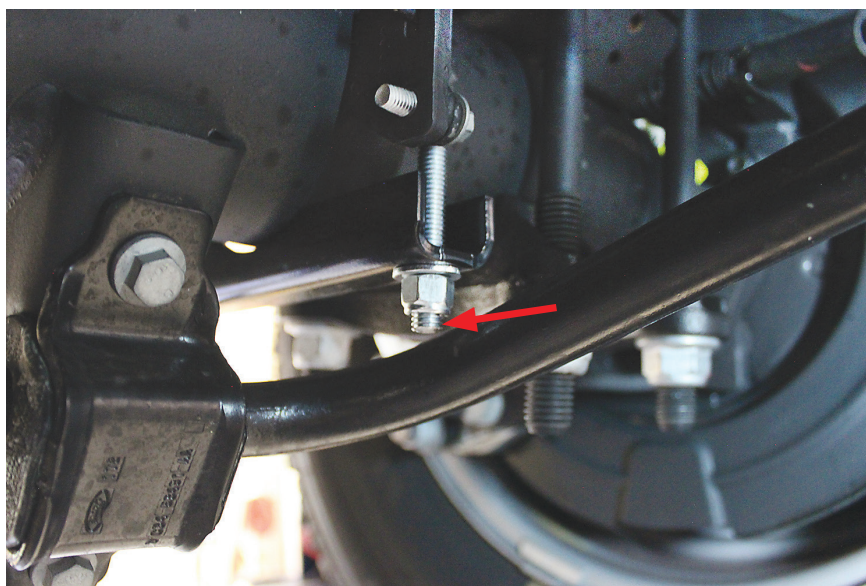

Fig. 20
6. On vehicles that have a sway bar, cut the front carriage bolt just below the nut so it does not contact the sway bar (Fig. 20).